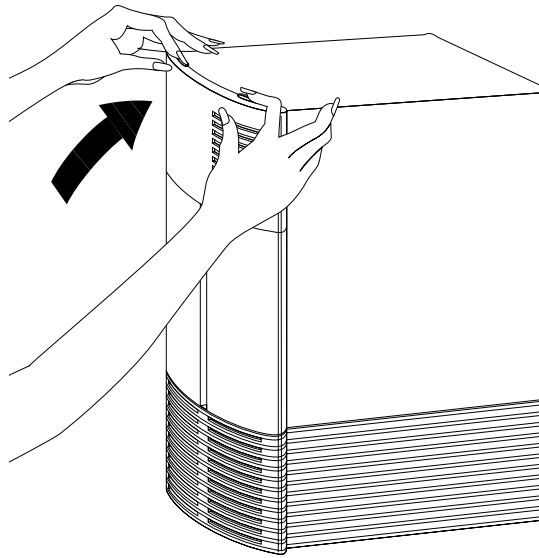

Figure 3-13 Replacing the Front Plastic Cover
- Tilt the panel up to the chassis, as shown in Figure 3-13. The cover snaps in place.